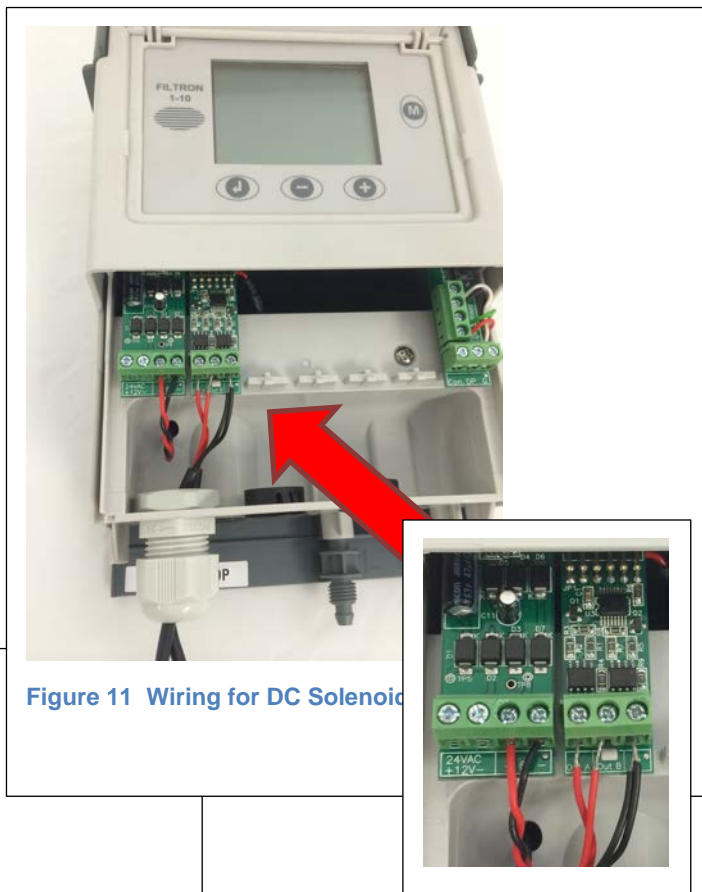

Figure 11 Wiring for DC Solenoid
Each of the solenoids must be connected to the board inside the controller, as shown in Figures 11, 12.
DC models: The black wire from each solenoid should be attached to the common terminal (C) as shown in Figure 11. The red wires should be attached as shown to terminals Out A and Out B respectively.